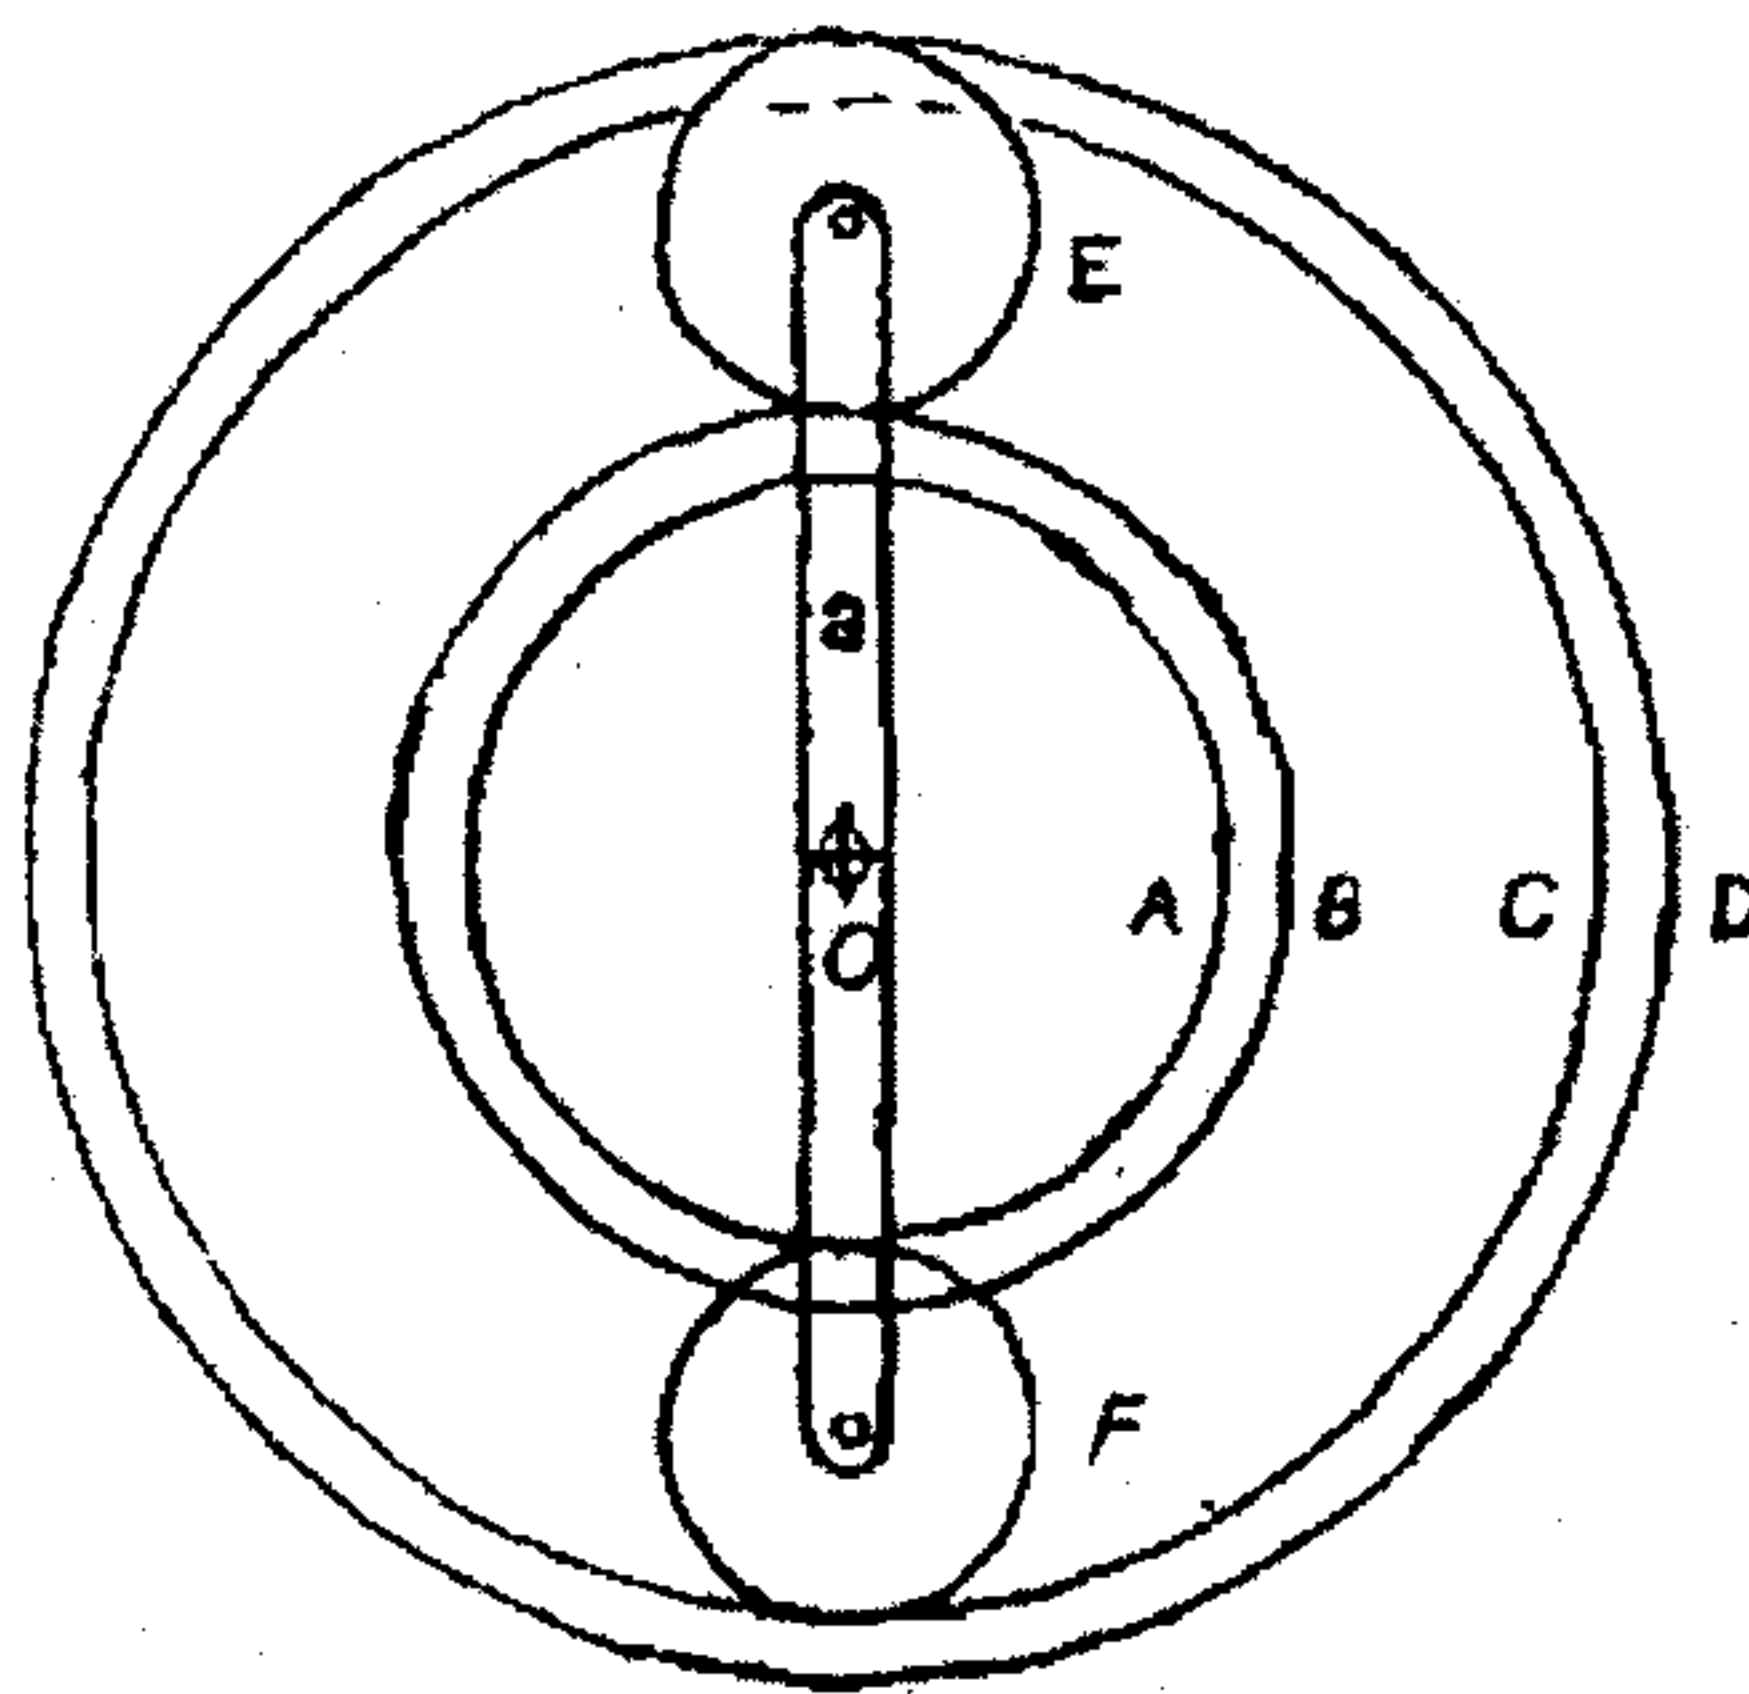

Fig. 14 (b) (i)
- (b) (i) In the epicyclic gear train shown in Fig 14 (b) (i) the compound wheels A and B as well as internal wheels C and D rotate independently about the axis O. The wheels E and F rotate on the pins fixed to the arm a. All the wheels are of the same module. The number of teeth on the wheels are  $T_A = 52$ ,  $T_B = 56$ ,  $T_E = T_F = 36$ .